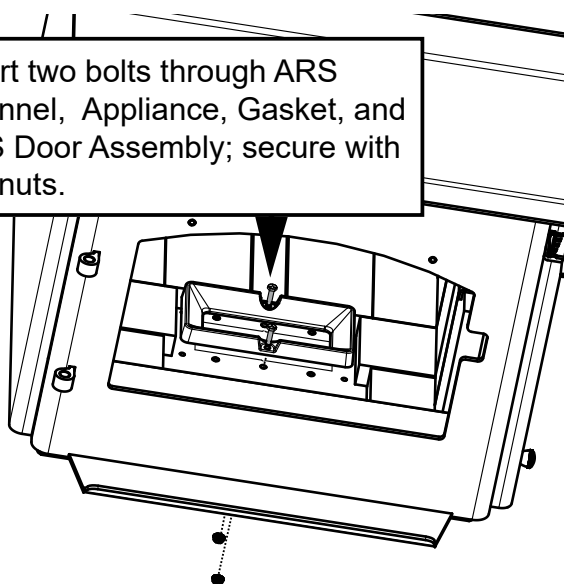

Figure 19.3
11. Using two bolts and two flange nuts to secure ARS channel using 3/8 open end wrench and 7/16 socket wrench (**Figure 19.3 on page 19**).
11. Use 2 bolts and two flange nuts to secure ARS channel using 3/8 open end wrench and 7/16 socket wrench (Figure 19.3 on page 19).